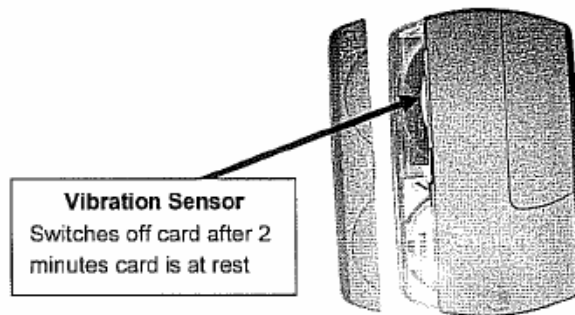

Figure 2.4. Card with Vibration Sensor
- b. A unit that contains a single battery and a vibration sensor (Figure 2.4). This is incorporated to prolong battery life by switching the card off when not in use. The sensor detects the absence of change in position longer than 2 minutes and automatically switches off the unit.